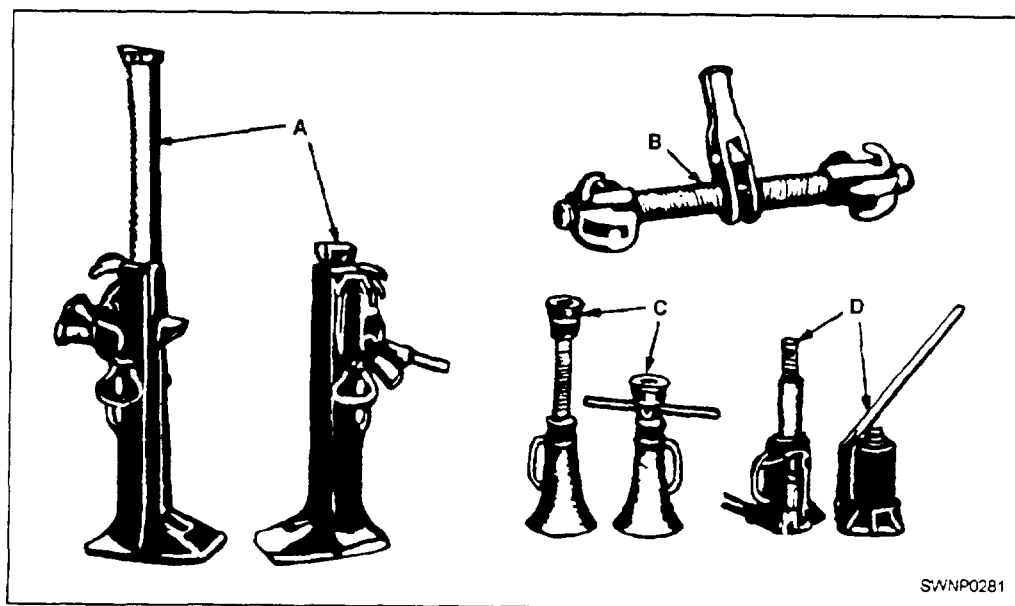

Figure 6-34.—Mechanical and hydraulic jacks: A. Ratchet lever jack with foot lift; B. Steamboat ratchet; C. Screw Jack; D. Hydraulic jack.
Jacks are available in capacities from 5 to 100 tons. Small capacity jacks are normally operated through a rack bar or screw, and large capacity jacks are usually operated hydraulically (fig. 6-34).
1. Ratchet lever jacks are rack bar jacks having a rated capacity of 15 tons. These jacks have a foot lift by which loads close to the base of the jack can be engaged (fig. 6-34, view A).
2. Steamboat ratchets (often referred to as pushing and pulling jacks) are ratchet screw jacks of 10-ton-rated capacity with end fittings that permit pulling parts together or pulling them apart. They are primarily used for tightening lines or lashings and for spreading or bracing parts in bridge construction (fig. 6-34, view B).
3. Screw jacks have a rated capacity of 12 tons. They are approximately 13 inches high when closed and have a safe rise of 7 inches. These jacks are used for general purposes, including steel erection (fig. 6-34, view C).
4. Hydraulic jacks are available in many different capacities and are used for general purposes (fig. 6-34, view D).